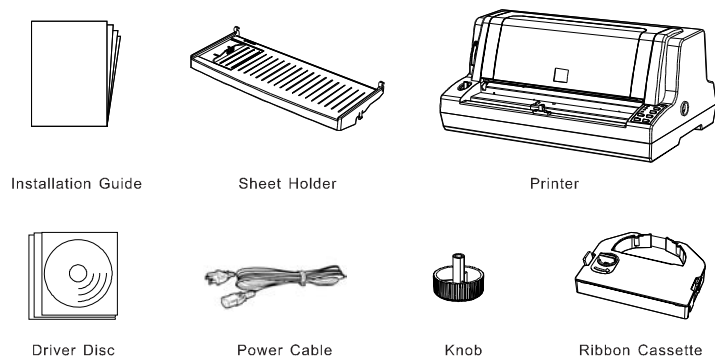

Figure 1
- Make sure the following parts (refer to the Figure 1) are included while unpacking the printer, and no parts are damaged.